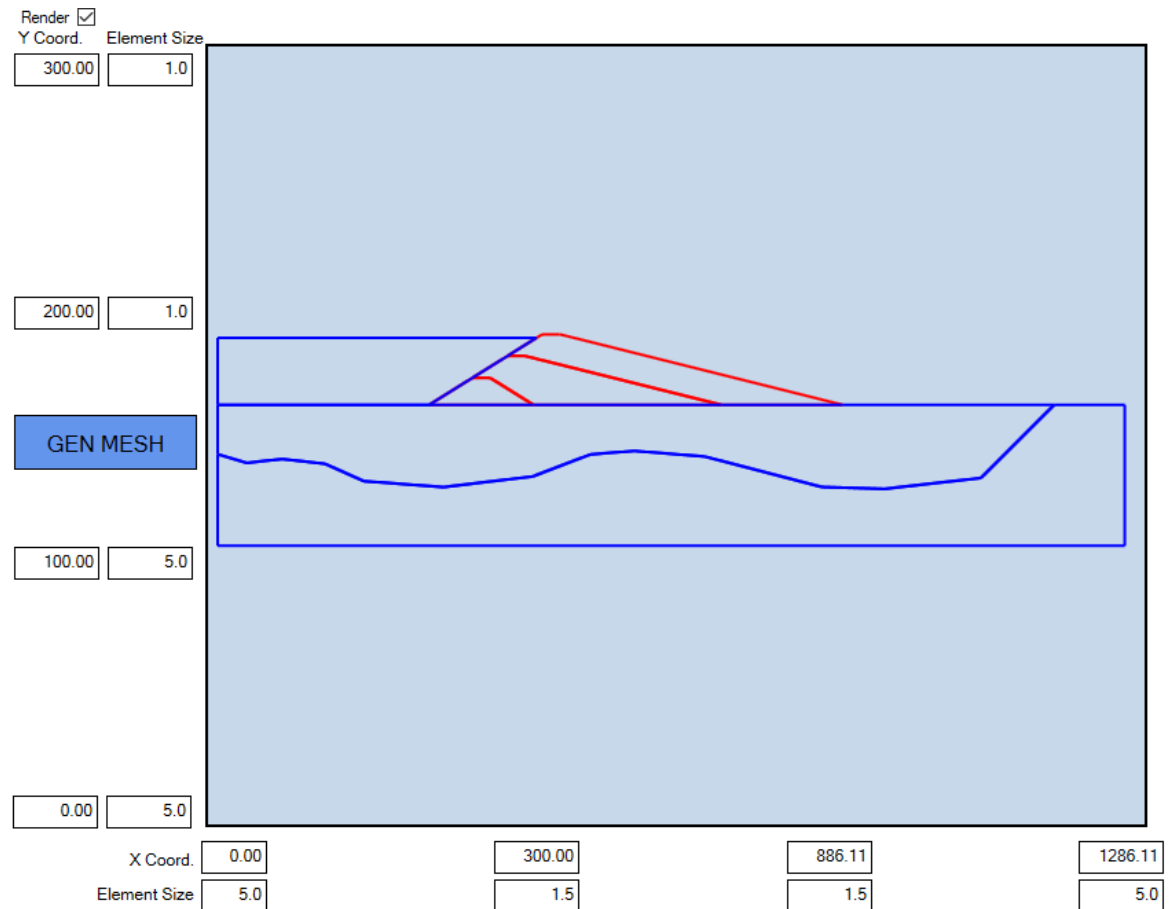

Figure 31: 2D Meshing Geometry in Render Area
The CAD file must have at least 2 layers; one named *Main* and the other named *Domain*. The rest of the layer are ignored. Both layers should have only closed polylines elements. *Main* should contain the geometry where the mesh needs to be finer. *Domain* should contain the overall domain of the model. Once they are analyzed, *Main* and *Domain* layers are displayed in red and blue, respectively, as shown in Figure 31.
The following is an example of input text file, and it corresponds to the example of Figure 31:
- **Analyze:** Runs the analysis of either the CAD or Text file, and display the image shows in Figure 31.
The coordinates and element sizes can be edit, if one needs further adjustments. Once the number in all 16 boxes are in agreement, click the *GEN MESH* button (blue button) of Figure 31, for generating the FLAC® Mesh.